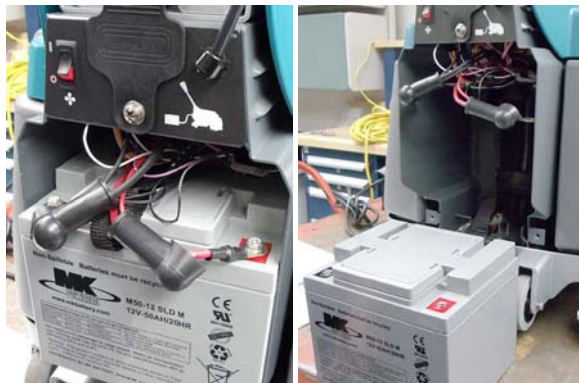

Fig. 2
2. Unlatch the battery support strap. Disconnect the black negative (-) cable first then red positive (+) cable from battery. Carefully remove the battery from machine (Figure 2).